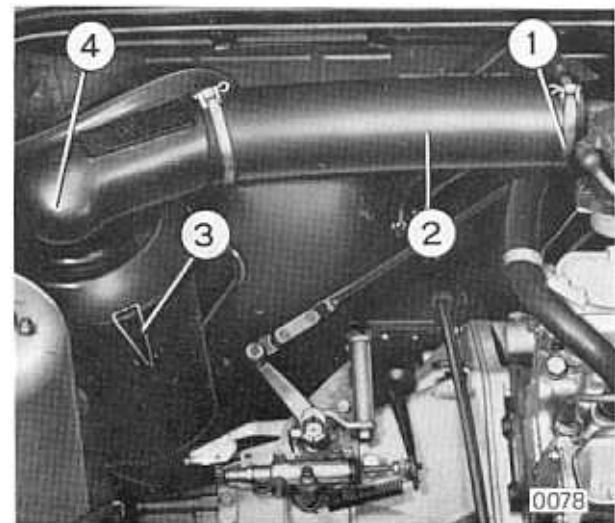

Fig. 01 2/8 - Complete air cleaner
- Slacken the clamp (1), remove the hose (2), unhook the clips (3) and remove the cover (4) complete with cleaner element; slacken the clamps holding the breather tube and the rubber sleeve of the filler, and then remove sleeve and tube.
- With reference to fig. 01 2/7 slacken the fuel delivery (3) and fuel leak-off hoses (4-5) and remove cables (1 and 2) from the transmitter.